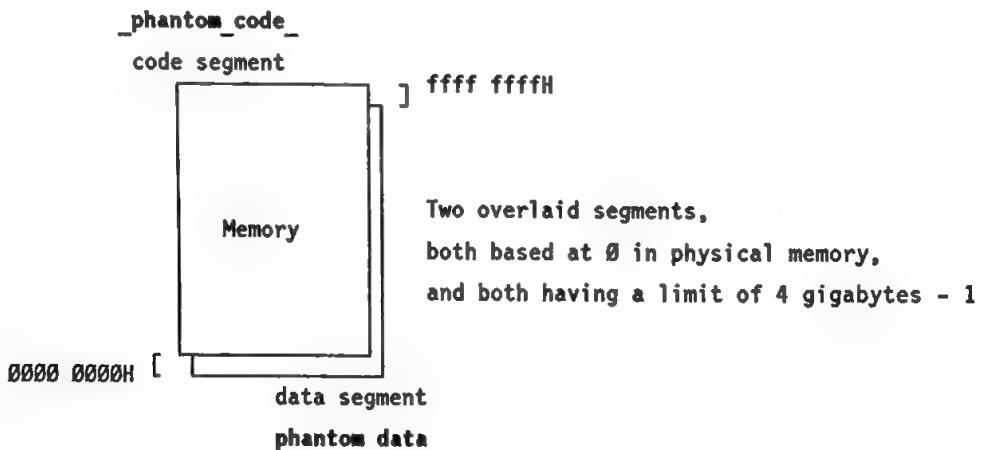

Figure 2-1 Default Flat Memory Model
- Creates two segments called **\_phantom\_code\_** and **\_phantom\_data\_**. The default descriptor privilege level (DPL) value is zero, or most privileged. These overlaid segments each have a default base address of zero and a default limit of 4 gigabytes - 1. Figure 2-1 depicts the default flat memory model used by the builder.